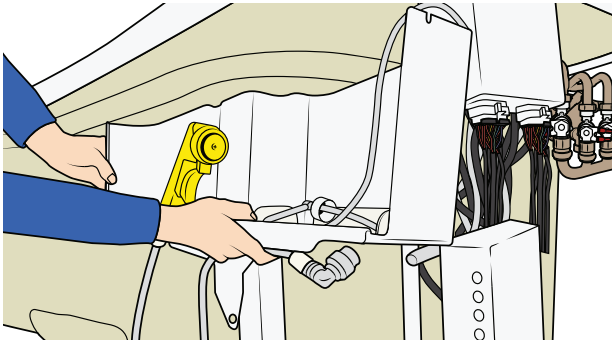

Figure 35
17. Lift off the disinfection compartment together with the disinfection hose. See Figure 35.